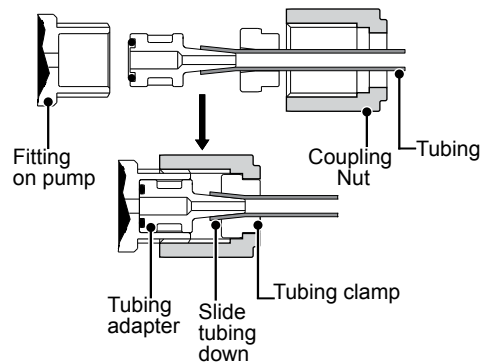
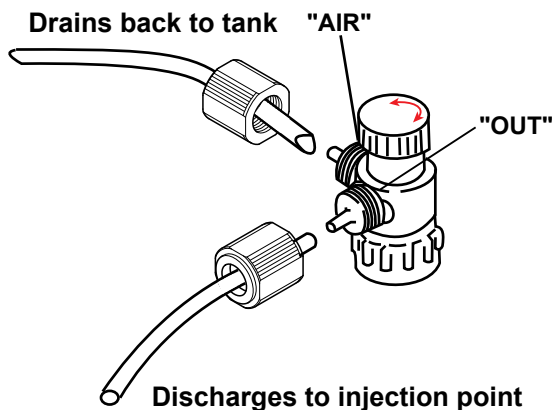

Figure 5
Figure 6 Air Vent Valve Tubing
Attach tubing as shown in Figure 5. First slide the coupling nut, small end first, then the tubing clamp onto the tubing. Push the tubing over the tubing adapter tip all the way to the valve housing shoulder. (Tip: if the tubing is stiff from cold, dip the tubing end in hot tap water for a few minutes so it will slide on and flare out more easily. Push the tubing adapter into the fitting on the pump and coupling nut onto the threads. Apply some pressure on the coupling nut and tubing while tightening the nut, making sure the tubing has not backed off of the shoulder of the valve housing.
Attach tubing as described in section 2.3 and as shown in Figures 5 and 6. Note: Some models have an air vent valve with two outlet connections. The connection marked 'OUT' is the discharge side to the application point. (Fig 6). Attach a second length of tubing to the air vent side marked ('AIR') and route back to the chemical solution tank or drum. On the larger pumps (31 & 36 sizes), the air vent valve connections are not marked, however, the discharge side is the vertical (UP) connection and the air vent connection is on the side of the valve.